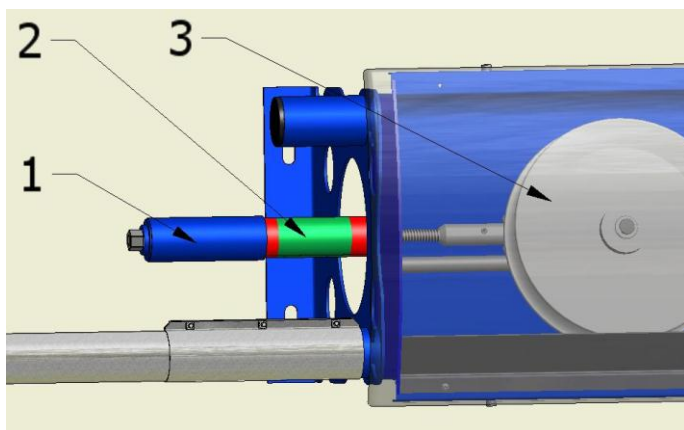

Fig. 49A Wire tension indicator of the MiniPork drive unit
The side of the drive unit is equipped with an indicator (Pos. 2 fig. 49A) where the wire tension can be watched continuously. The wire tension can be adjusted by turning the handle (pos. 1, fig. 49A). The spring is tightened until the handle almost entirely covers the green area on the indicator.
The wire will stretch during operation, but as long as the indicator moves in the green area, an adjustment is not necessary. The handle is re-tightened when the indicator reaches the red area. By constantly keeping an eye on the indicator, you will have an impression of the present wire tension. Tightening of the handle can be carried out many times, but when the tension wheel (Pos. 3, fig. 49A) reaches the back of the housing, the wire must be shortened.